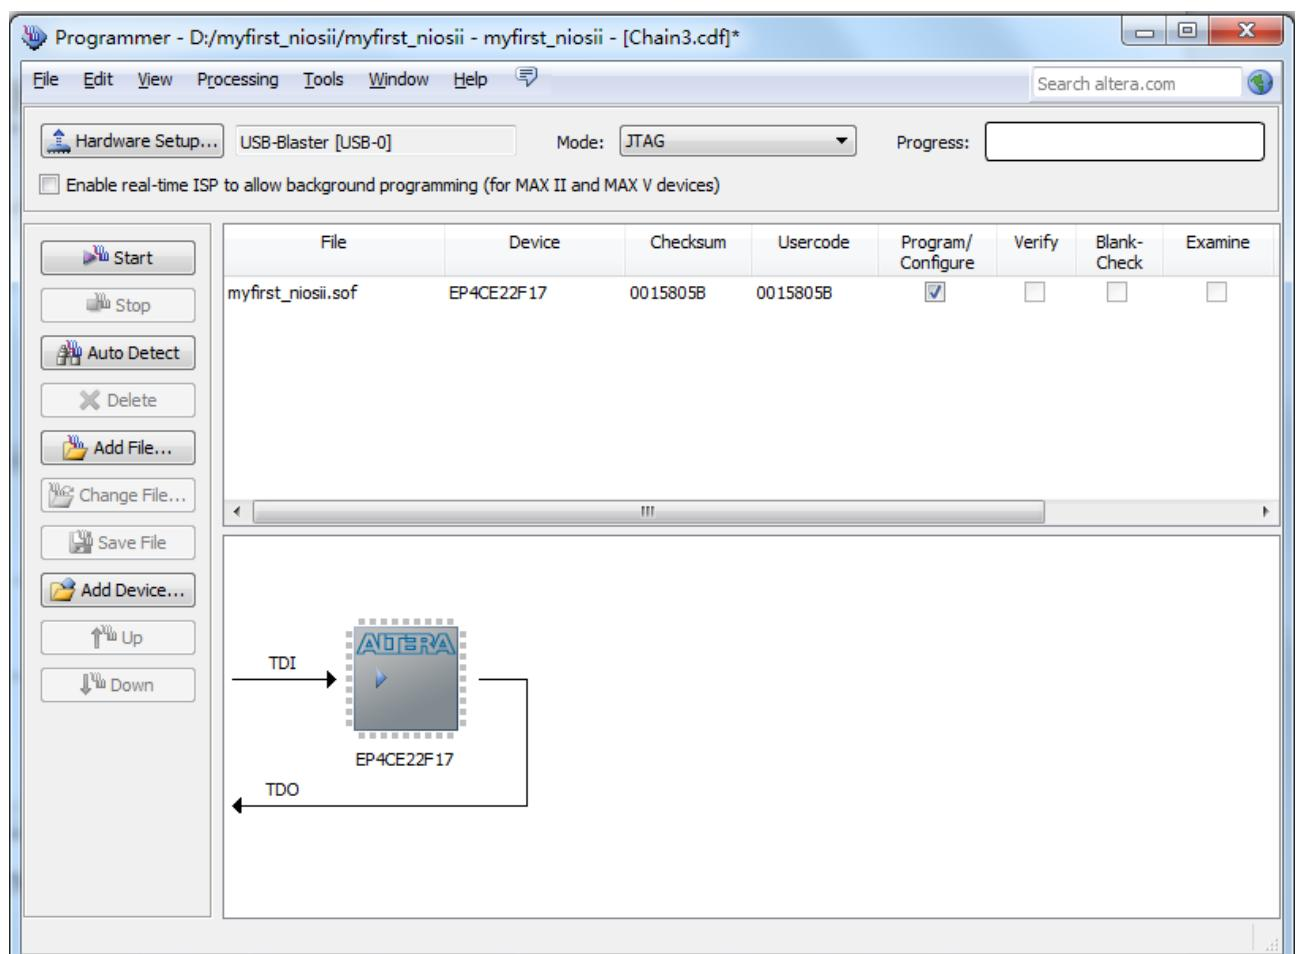

Figure 1-70 Quartus II Programmer
15. Turn on the Program/Configure option for the programming file.(See **Figure 1-70** for an example).